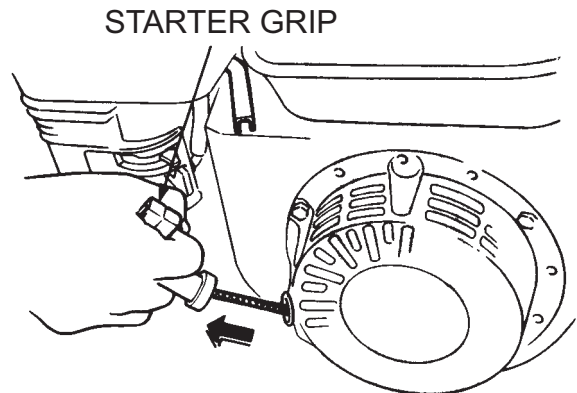

Figure 17. Starter Grip
- Grasp the **starter grip** (Figure 17) and slowly pull it out. The resistance becomes the hardest at a certain position, corresponding to the compression point. Pull the starter grip briskly and smoothly for starting.